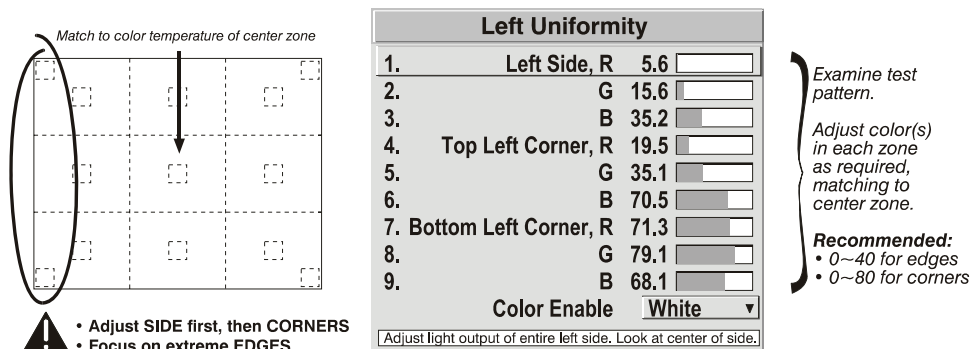

Figure 3.21. Match Zones to Center Color Temperature
- 2b) Return to the *White Field Uniformity* menu. Beginning with the screen that exhibits the most obvious color shift(s), for each edge that exhibits a noticeably different color temperature from the center, select the corresponding *Uniformity* adjustment menu — *Left*, *Right*, *Top* or *Bottom*. For example, if any part of the left side is too blue, too red or too green, go to the *Left Uniformity* menu and adjust the colors (i.e., change their light output) until all portions of the left side closely match the center color temperature. Adjust an edge first (focusing on its center), and then adjust its corners. See Figure 3.21.